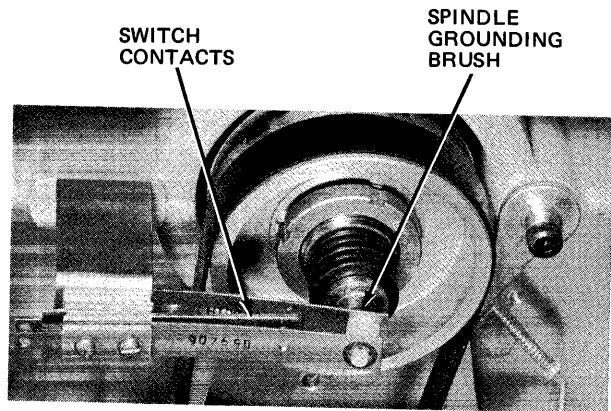

Figure 5-12. Pack Switch Assembly
- With disk pack installed, tension required to open lower contact is 100 ± 5 grams (see Figure 5-12).
- Check tension on spindle grounding brush contact arm. With disk pack installed, approximately 300 to 500 grams are required to open brush contact (see Figure 5-12).